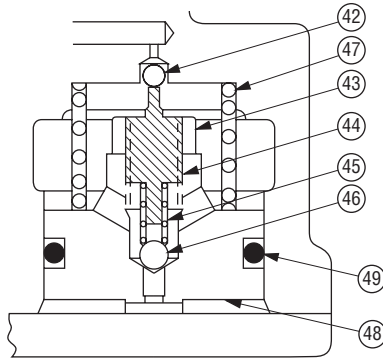

Figure A4 ③ ⑦
Refer to Figure A4. Lightly bottom the stem (44) on the ball (46). Then back out the stem 3-1/2 turns. Tighten nut (43). The resulting pressure setting should be approximately 19.3 bar (280 psi).